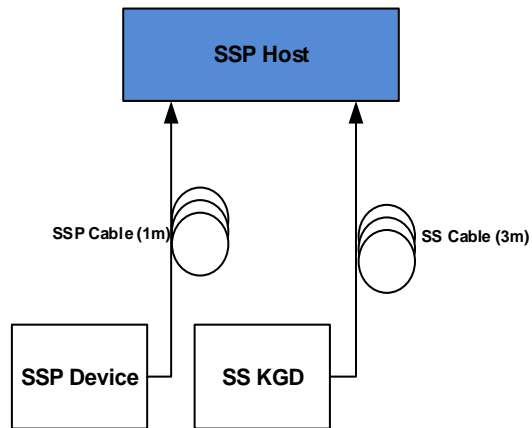

Figure 11-2: Modified Host/Device 3.1 Interoperability Interim Tree (with SSP device and 3.0 KGD)
- Connect one SSP Device at root port and a SS Asmedia KGD to another port of the SSP host (see Figure 11-2)